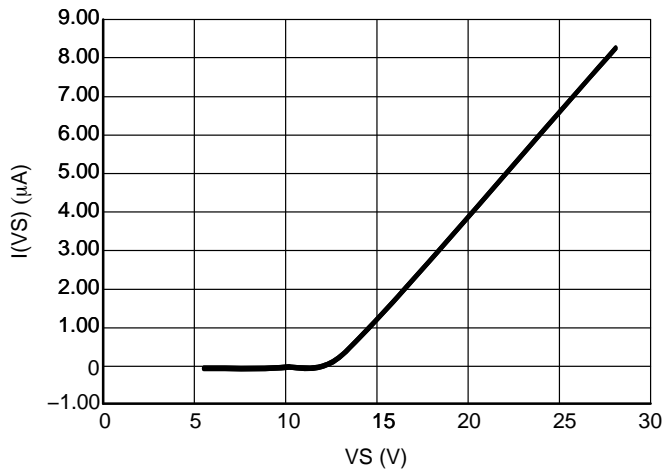

Figure 13. $I(VS)$ Standby Current vs. VS at 25°C
- Refer to Figures 13 and 18 for the VS standby current behavior.